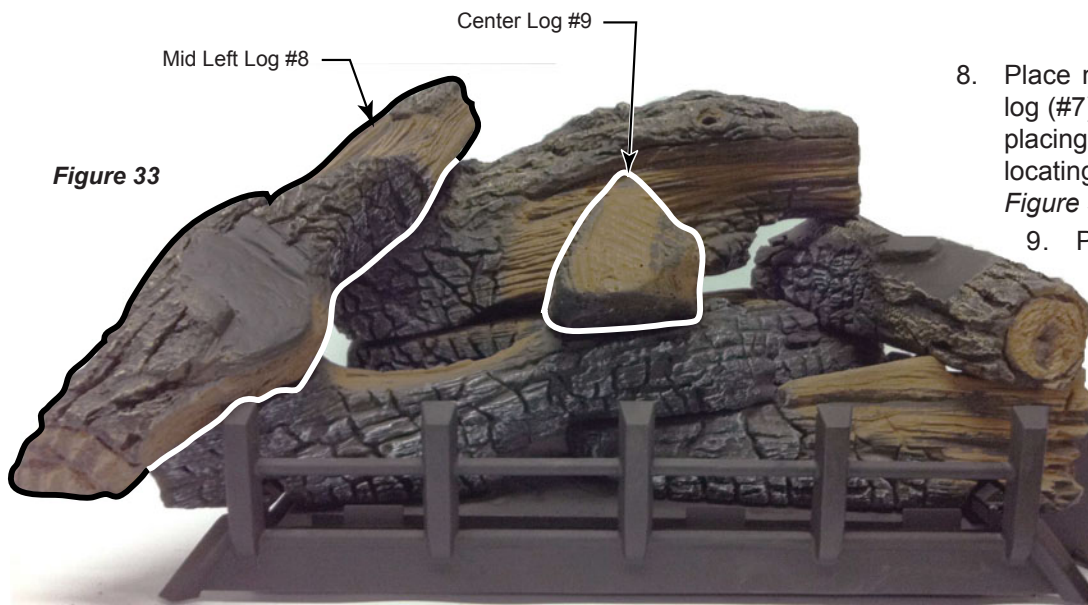

Figure 33
8. Place mid left log (#8) on mid rear log (#7) and front bottom log (#5) by placing notches on bottom of log onto locating blocks on log #7 and log #5. *Figure 33*
9. Place center log (#9) onto front bottom left log (#5) by placing notch on bottom of log #9 onto locating block on log #5. The flat triangle-shaped end of log #9 should be towards front with pointed end of log resting on bottom rear log (#1). *Figure 33*